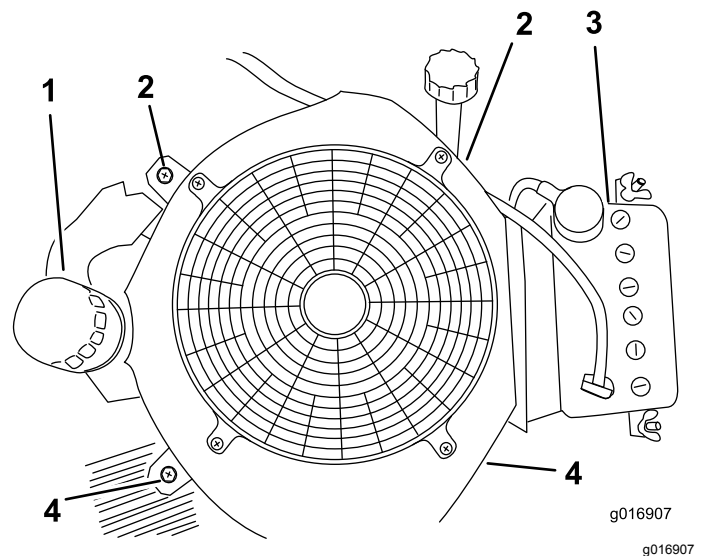

Figure 75
6. Remove the 2 screws on the left and right sides in the cooling-fan housing (Figure 75).